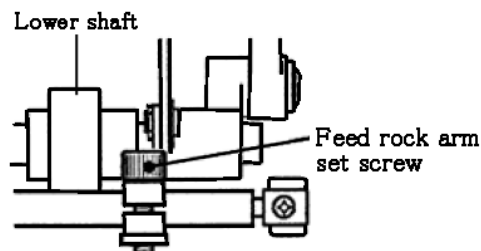

Fig.4
2. Loosen the feed rock arm set screw at the right side of lower shaft, adjust the fore and aft position of feed dog.(Fig. 4)